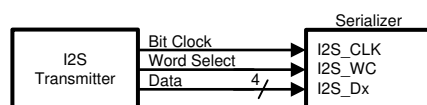
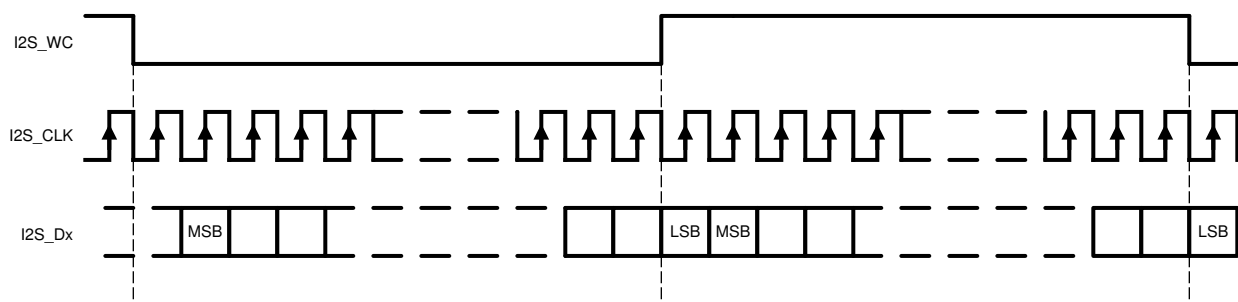

Figure 8-7. I²S Connection Diagram
Figure 8-8. I2S Frame Timing Diagram
The DS90UB941AS-Q1 serializer features six I²S input pins that, when paired with a compatible deserializer, supports 7.1 High-Definition (HD) Surround Sound audio applications. The bit clock (I2S_CLK) supports frequencies between 1 MHz and the lesser of CLK/2 or 13 MHz. Four I²S data inputs transport two channels of I²S-formatted digital audio each, with each channel delineated by the word select (I2S_WC) input. Refer to Figure 8-7 and Figure 8-8 for I2S connection diagram and timing information.